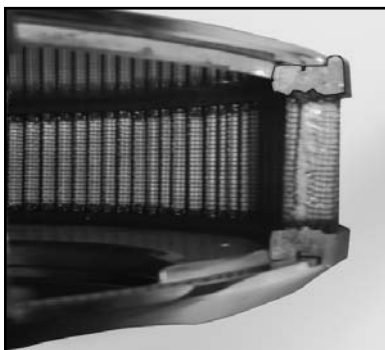

Fig. 1
- 1) The K&N Dual Quad air filter assembly features a unique seal between the filter element and the top and bottom plates. Care must be taken to ensure the plates are fully seated in the filter element before installing the bolts. See Fig. 1